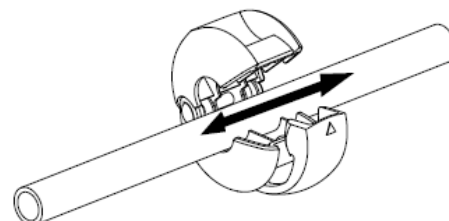

Fig. 4b
- Slide the hose stop along the hose to the desired position (see Fig. 4b).